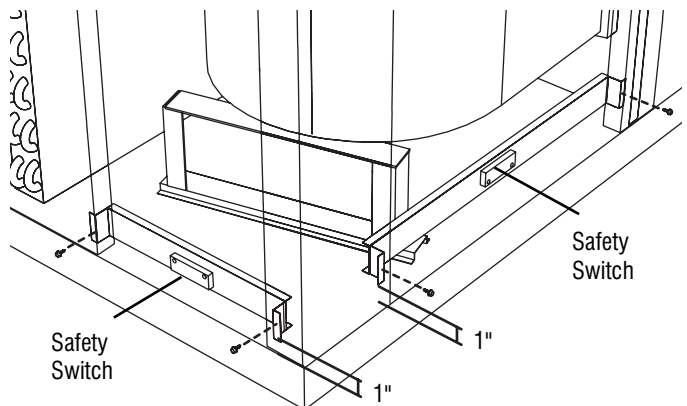

Fig. 10 Mount safety interlock switches to baffles.
1. Position long and short safety interlock switch/mounts between frames of access opening, 1" from the bottom, and attach with included self-drilling screws. (See Fig. 10.)